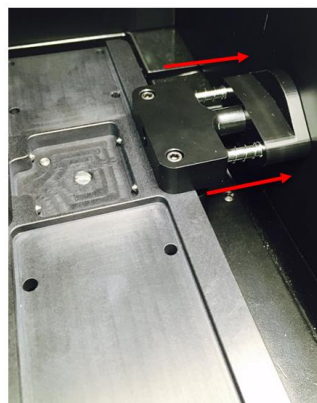

FIGURE 4: Spring-loaded beam tubes
5. Ensure that the spring-loaded beam tubes fit flush against the walls (see Figure 4).